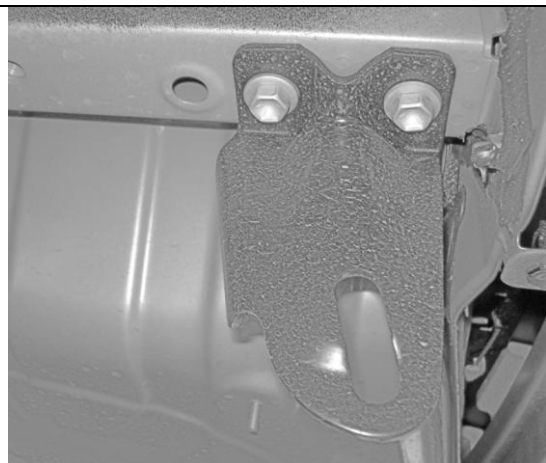

Figure 2 – Remove shipping hook.
1. Remove the shipping hook from the passenger side. Refer to Figure 2.